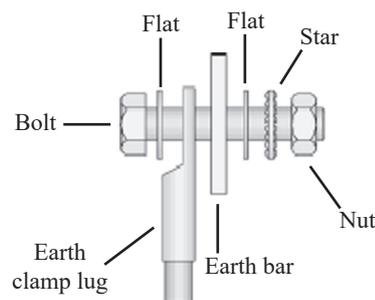

Figure 4: Clamping Procedure
- 4.2 Make the lead lengths on the earth clamp as short as possible. Using M8 bolts, securely connect the earth clamp as per figure 4.